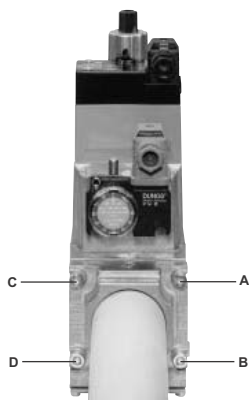
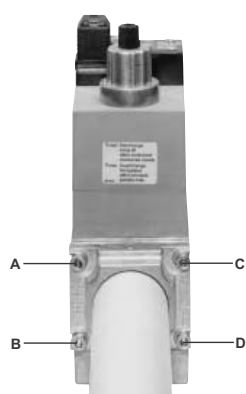

Fig. 4
Fig. 5
1. Loosen screws A and B **do not** unscrew (Fig. 4 - Fig. 5).
2. unscrew screws C and D (Fig. 4 - Fig. 5).
3. Remove MultiBloc between the threaded flanges (Fig. 5).